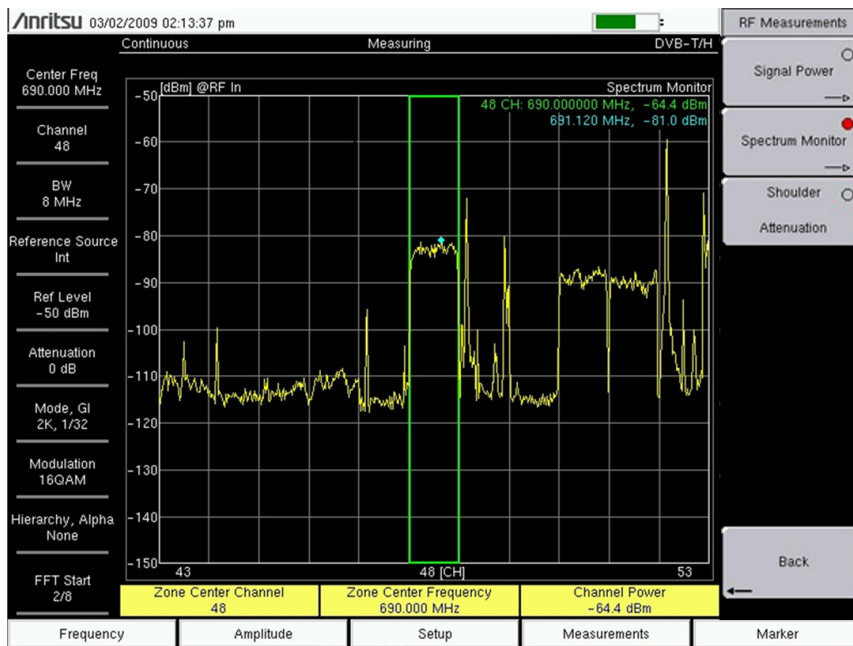

Figure 2-20. Spectrum Monitor Measurement Screen
3. Press the Spectrum Monitor submenu key to activate the measurement. The sample image in Figure 2-20 may differ from the actual screen on your instrument.